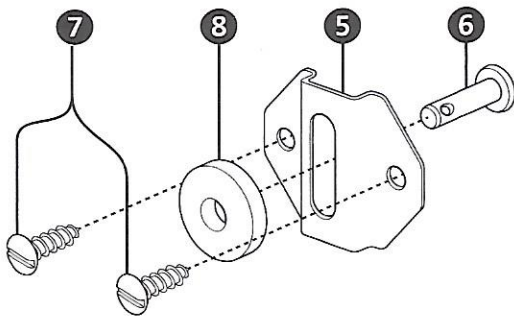
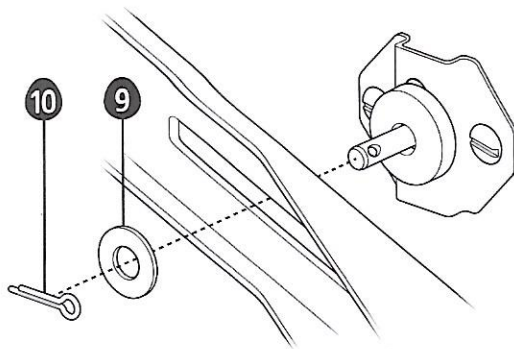
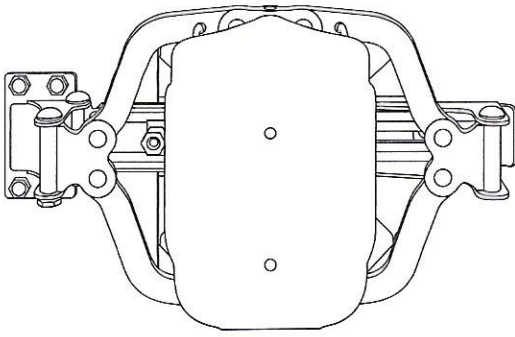

figure 2
figure 3
figure 5
2. With the **Bracket Hinge** attached and the door or gate closed, swing and hold the **Tie Bar** against the door or gate and trace the outline of the **Tie Bar Plate Slot ④** on to the door or gate. Swing back the **Tie Bar** and mark a vertical line 3/4" back from the end of the slot. Center the **Tie Bar Plate ⑤** on the 3/4" mark and slot. Mark the location of the two screws and drill 1/8" holes in the door or gate. Insert the **Clevis Pin ⑥** into the vertical slot in the **Tie Bar Plate** and attach the **Tie Bar Plate** to the door or gate with the two **5/8" Screws ⑦**. Place **Fiber Washer ⑧** onto the **Clevis Pin** (figure 2). Swing the **Tie Bar** over the **Tie Bar Plate** so the **Clevis Pin** goes through the **Tie Bar Slot**, place the **Steel Washer ⑨** onto the pin and install the **Cotter Pin ⑩** through the hole in the **Clevis Pin** (figure 3).
4. Locate the **U Key ⑪** on the **Cylinder Spring Assembly**. It must be facing upward as you mount the **Cylinder Spring Assembly** onto the **Tie Bar**. Align the **S Lever Hinge ⑫** in between the **Bracket Hinge** and insert a **Hinge Bolt ⑬**, secure with a **Hinge Nut ⑭**. Slightly open the door or gate to get the proper hinge alignment then connect the other **S Lever Hinge** to the **Tie Bar**. Insert **Hinge Bolt** and secure with a **Hinge Nut**.
5. Open the door or gate and remove the **U Key** from around the **Piston Rod**. This will allow the door or gate to close fully and properly. Save the **U Key**, as it must be reused should it be necessary to remove the **Cylinder Spring Assembly**. Open the door or gate and allow the **Kant-Slam®** to shut the door or gate. Rotating the **Cylinder ⑮** controls the closing speed of the door or gate. Turning right slows the closing rate, left to increase the speed. (Note: Increase speed to overcome a lock set with a strong latch spring)
6. Snap on the **Cover** over the **Cylinder** with the curved section up. Your installation is now complete (figure 5).